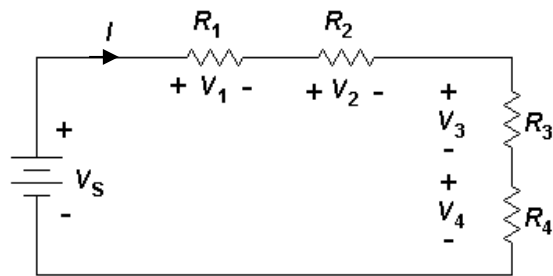

FIGURE 10-1
BACKGROUND: Kirchhoff's Voltage Law states that the algebraic sum of voltages around a closed path is equal to zero. With regard to Figure 10-1, this means that
- j. Select four resistors from the eight available, and connect them in series as shown in Figure 10-1. Record your selected values in Table 10-1.